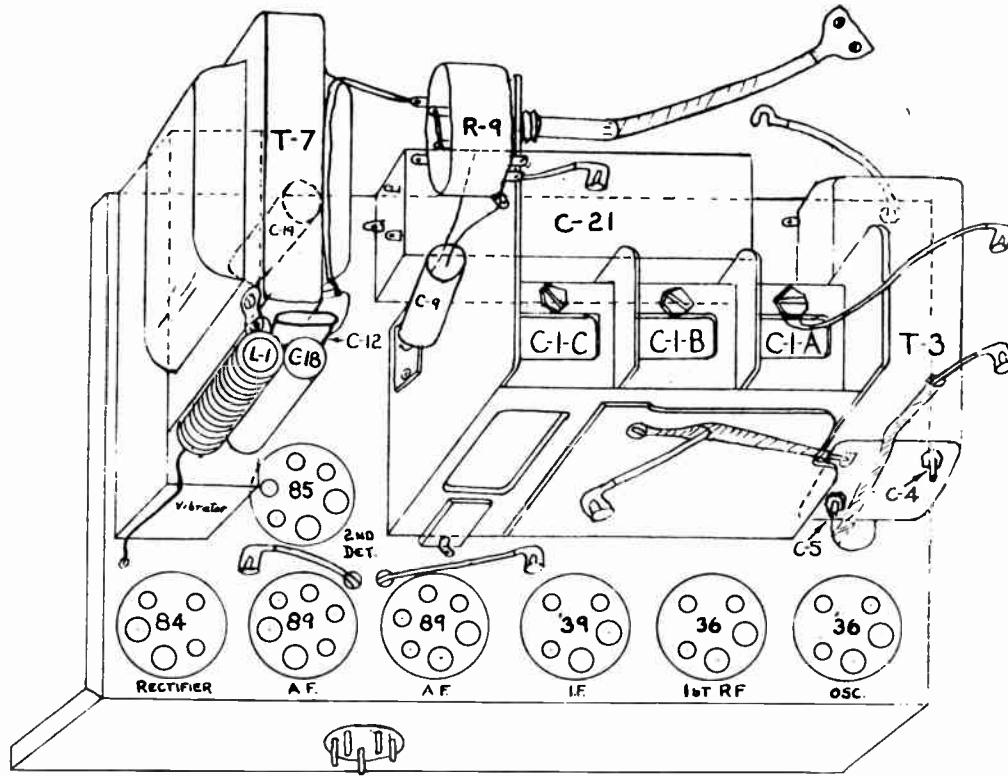
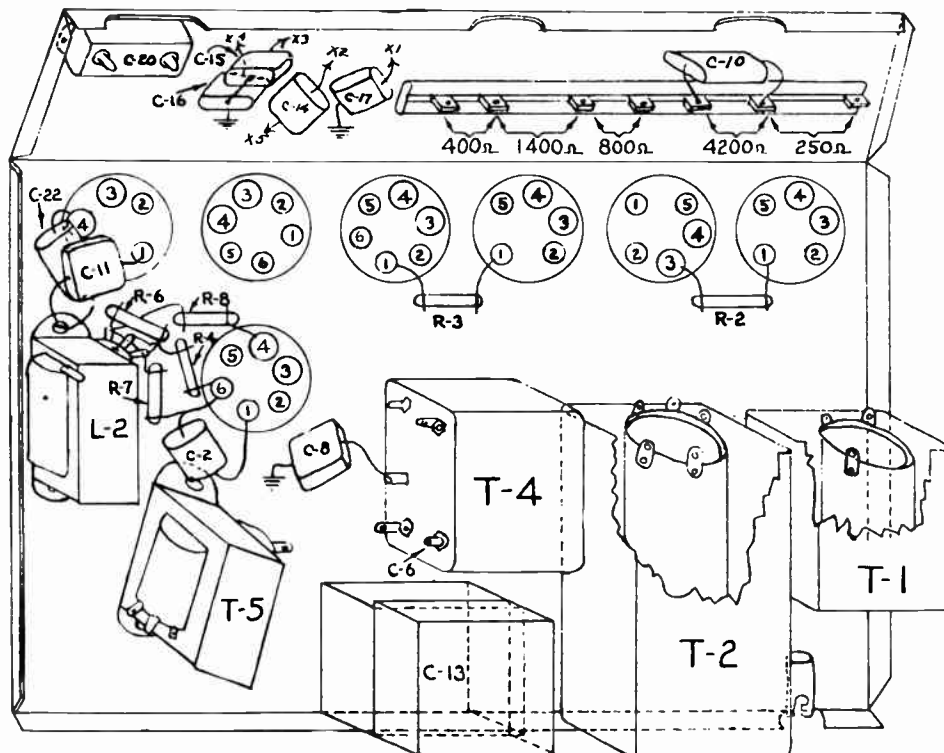

Fig. 3 PARTS LOCATING DIAGRAM
Fig. 4 PARTS LOCATING DIAGRAM
- (d) Peak the I.F. condenser (C-6 on Fig. 4) which is on the I.F. coil located on the bottom of the chassis. Then peak the two condensers (C-4 and C-5 on Fig. 3) located on front of the Oscillator I.F. coil, peaking the plate coil condenser C-4 first.
- (e) Peak the parallel trimmers on the top of the condenser gang. The oscillator section (C-1-C figure 3) located next to the volume control should be peaked first.